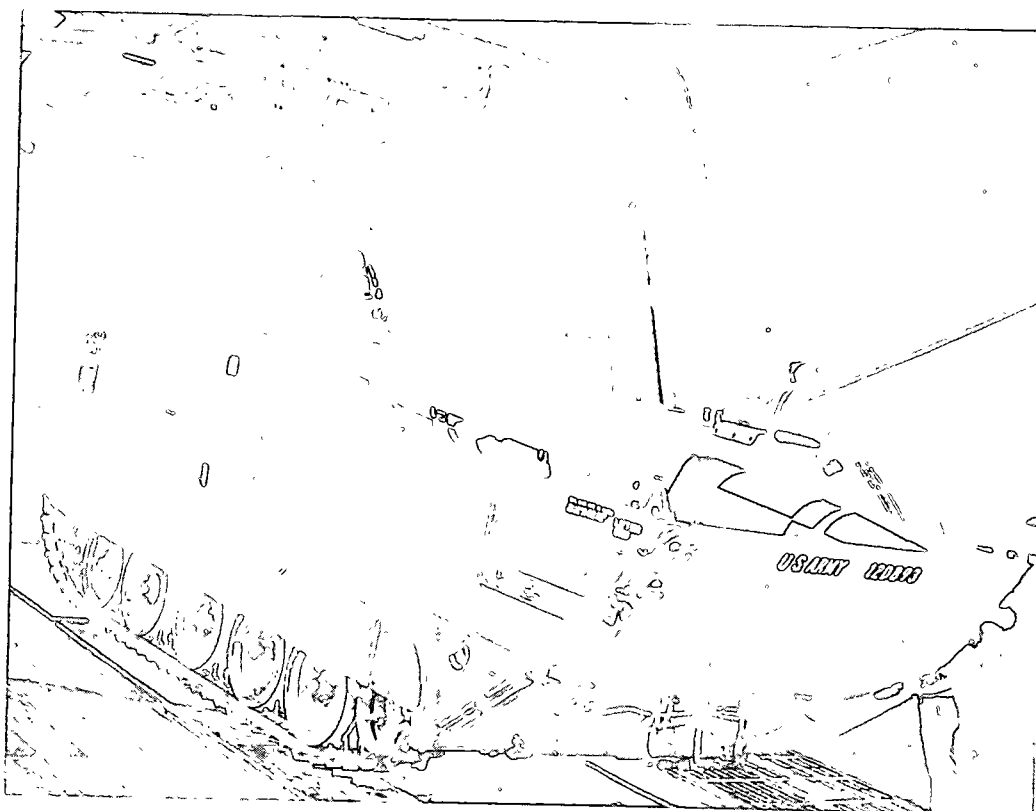

Figure 2-39. Loading the XM688 loader-transporter over the aft ramp.
b. Drive each vehicle into the cargo compartment over the aft ramp as shown in figures 2-39 and 2-40 and park with the front of each vehicle at station number prescribed in tiedown diagram (fig 2-41).